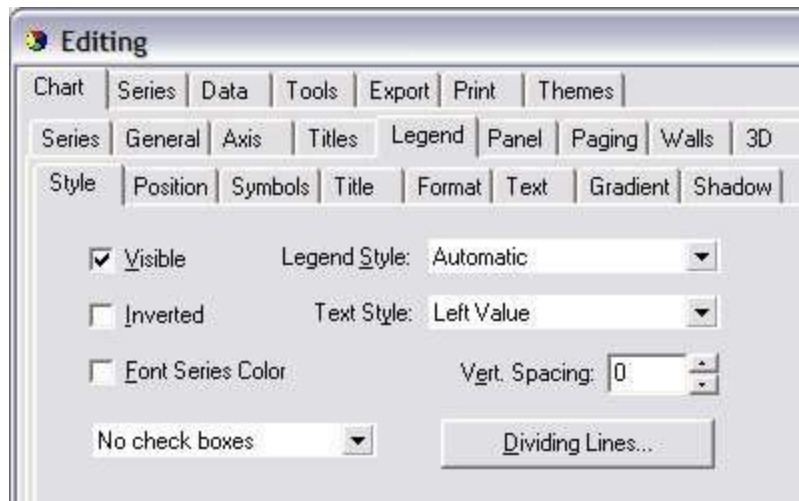

Figure 4 - Editing the legend of a graph
**Changing the Legend:** The position and appearance of the graph's legend can be changed by selecting the Legend sub-tab from the Chart main tab. This gives the user the ability to move the legend. They can also assign a background color, gradient or image to the legend. See Figure 4.